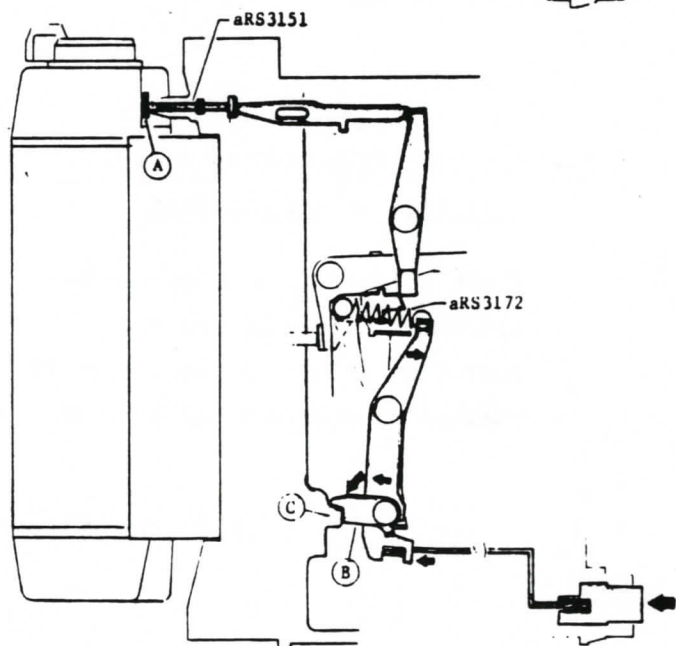

Fig. 77
- (3) When the film-loaded Roll film holder is not wound, Double exposure preventive plate sticks out and stops Coupling pin of Revolving adapter.
- (4) In above condition, Spring (aRS3172) is extended by pushing the shutter button more deeply, and Stop plate (B) hits Body lug (C) Consequently, shutter button can not be released and double exposure is prevented. (Fig. 77)